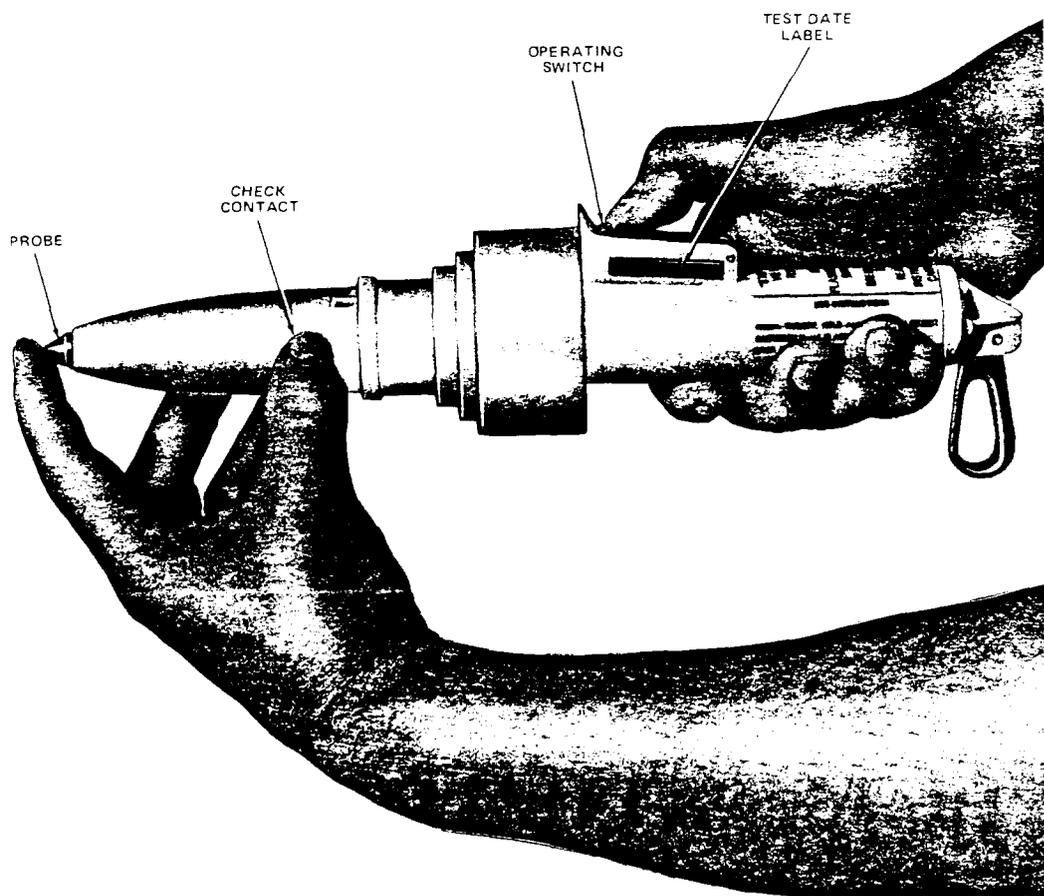

Fig. 13--Checking Test Set Before Use
- (1) Examine the tester for any visual defects such as deep cuts or cracks. If there are any defects, the tester must be tested with the 1188A test set prior to use.
- (2) Grasp the 1188A test set handle, using the bare hand. Depress the switch and verify that the green LED is lighted. If the green LED does not light, check batteries; replace if needed. Repeat the self-test. If the green LED still does not light, do not use.
- (3) With the switch depressed, touch both the probe tip and the "check contact", using the free hand (Fig. 13). Remove the free hand; the red LED should flash. If it does not, do not use.